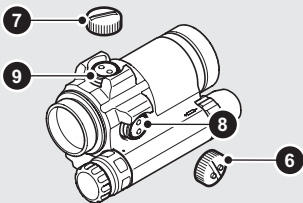

Fig. 2 Remove adjustment caps
- a Open lens covers (3) and (4).
- b Adjust the intensity (5) to a comfortable setting for the red dot to contrast against the target.
- c Remove the adjustment cap (6) and the cap (7) to access the windage adjustment screw (8) and the elevation adjustment screw (9). See Fig. 2.